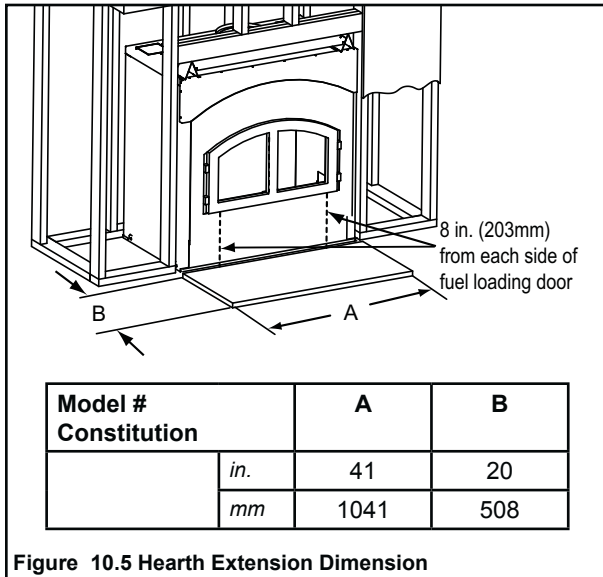
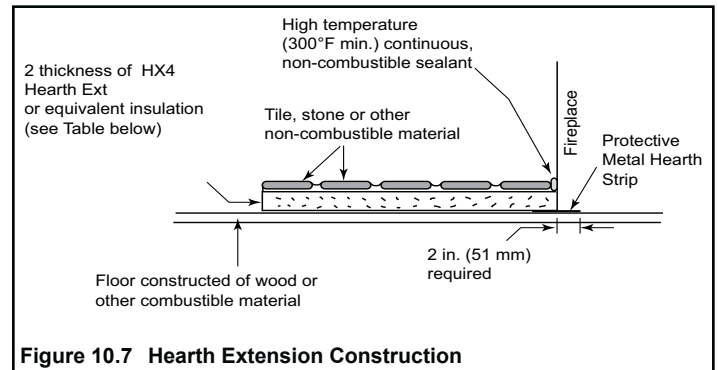
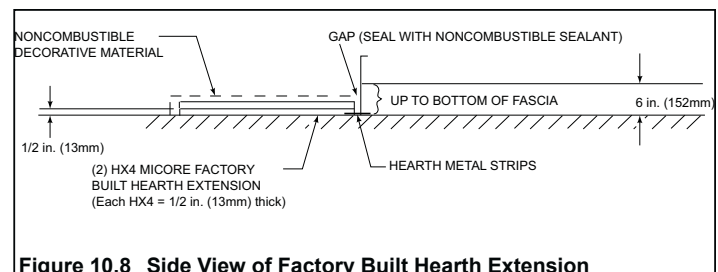

Figure 10.5 Hearth Extension Dimension
Figure 10.7 Hearth Extension Construction
Figure 10.8 Side View of Factory Built Hearth Extension
- Refer to Figure 10.5 for minimum dimensions.
The hearth framing must be constructed of non-combustible materials (Table 10.2) and placed on an HX3 or HX4, or equivalent material (Figure 10.7). When creating the platform, allow for the thickness of the non-combustible finishing materials (Figure 10.10).
The construction of, and materials used for a hearth extension are shown in Figures 10.5 and 10.8. A hearth extension of this construction may be covered with any non-combustible decorative material and may have a maximum thickness as per Figure 10.7 Seal gaps between the hearth extension and the front of the fireplace with a bead of non-combustible sealant.
Non-combustible flooring 20 in. (508mm) in front of and 8 in. (203mm) to either side of the fuel opening with a minimum thickness of 1 in. (25mm) and ("k" value = 0.49). See Figure 10.5 on page 54 and Figures 10.8, 10.9, and 10.10.